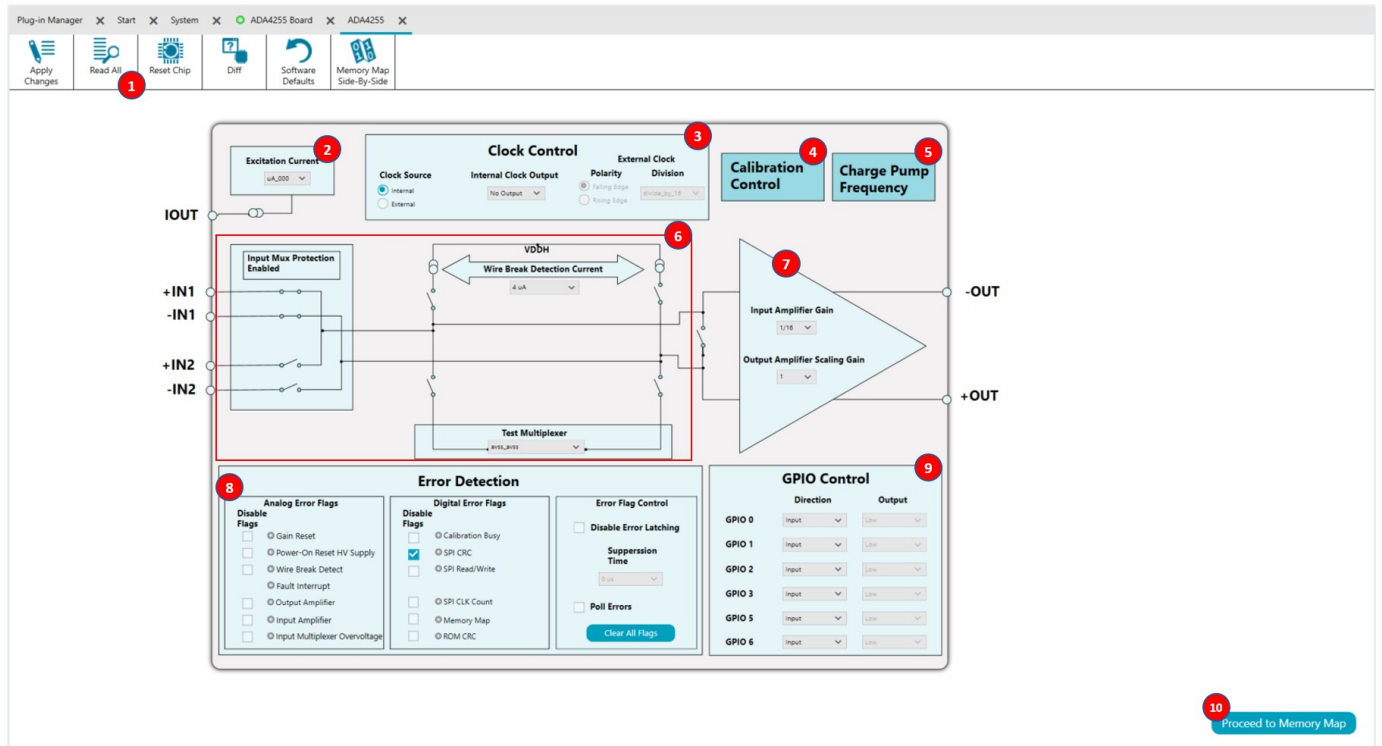
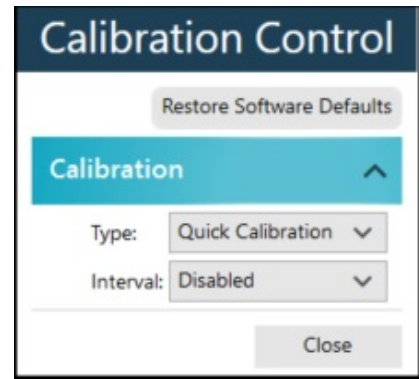

Figure 9. ADA4255 Evaluation Software Main Display
Figure 10. Calibration Settings Window
Note that the full screen block diagram shown in Figure 9 shows the full functionality of ADA4255. However, the following describes some of the blocks and their functions as the blocks and functions pertain to the ADA4255CP-EBZ:
1. **Read All** (which is located in the top left of Figure 9) reads all the register values of the ADA4255 and reflects these values in the **Chip View** display and the **Memory Map**. Click **Apply Changes** (which is located in the top left of Figure 9) to ensure that any changes are updated before reading the registers. Clicking **Reset Chip** (Label 1 in Figure 9) writes 0x01 to the software reset register of the ADA4255, which sets the ADA4255 back to the default configuration.
2. The **Excitation Current** (Label 2 in Figure 9) opens a drop-down menu. In this menu, users set the excitation current value for the ADA4255. After a change is made to the **Excitation Current** box, click **Apply Changes** to write the changes to the ADA4255.
3. The **Clock Control** panel (Label 3 in Figure 9) allows the user to either bring out the ADA4255 clock on the GPIO4 or to provide an external clock on the GPIO4. The GPIO4 has an SMA connector for ease of use with the external clock for synchronization purposes. The user can set up the division factor depending on the external clock speed as well as the edge on which the clock synchronizes. After a change is made in the **Clock Control** panel, click **Apply Changes** to write the change to the ADA4255.
4. The **Calibration Control** button (Label 4 in Figure 9) opens the window shown in Figure 10. This window allows the user to configure the calibration of the ADA4255. Set the first bit of the `trig_cal` register to 1 located in the memory map to trigger a calibration (see Figure 11), and then click **Apply Changes** to write the changes to the ADA4255.
5. The **Charge Pump Frequency** button (Label 5 in Figure 9) opens a window that allows the user to select the frequency of the charge pump. The user can choose from 8 MHz or 16 MHz. After a choice of frequency is made, click **Apply Changes** to write the changes to the ADA4255.
The components of the ADA4255 evaluation software user panel shown in Figure 9 include the following:
1. The multiplexer control section (Label 6 in Figure 9) allows users to control all of the switches available in the ADA4255 input multiplexer. This section also sets the wire break detection currents, the wire break switches, and the test multiplexer. After a change is made within the multiplexer control section, click **Apply Changes** to write the changes to the ADA4255.
2. The gain control area (Label 7 in Figure 9) allows users to select the gain of the ADA4255 as well as the scaling gains, 1 V/V, 1.25 V/V, or 1.375 V/V gains. After a change is made in the gain control area of Figure 9, click **Apply Changes** to write the changes to the ADA4255.
3. The **Error Detection** section (Label 8 in Figure 9) has three sections, the first two show the **Analog Error Flags** and the **Digital Error Flags** on the ADA4255. Each ADA4255 error flag is mapped to an indicator that turns on when the corresponding error bit is on. Both the digital and analog error register values are updated in the **Analog Error Flags** and **Digital Error Flags** fields. There is a check box next to each error flag that indicates whether the corresponding error flag is disabled or not. To disable the error flag, click the corresponding check box to
4. The **GPIO Control** section (Label 9 in Figure 9) allows users to configure each GPIO direction by selecting the direction within the corresponding **Direction** dropdown menus. The **Input** and the **Output** directions can also be selected from the **Direction** dropdown menus. If in output mode, the user can set the GPIOx pin to either high or low through the use of the dropdown menus under the **Output** column. If in input mode, the **Output** column dropdown menus automatically update to high or low depending on the corresponding GPIOx pin status.
5. Click **Proceed to Memory Map** (Label 10 in Figure 9) to read from and write to any of the registers. Use hex format in all fields. A detailed view of the memory map is shown in Figure 12. For more information on the Memory Map view, go to <https://wiki.analog.com/resources/tools/software/ace/understandingtheui/memorymapview.txt>.